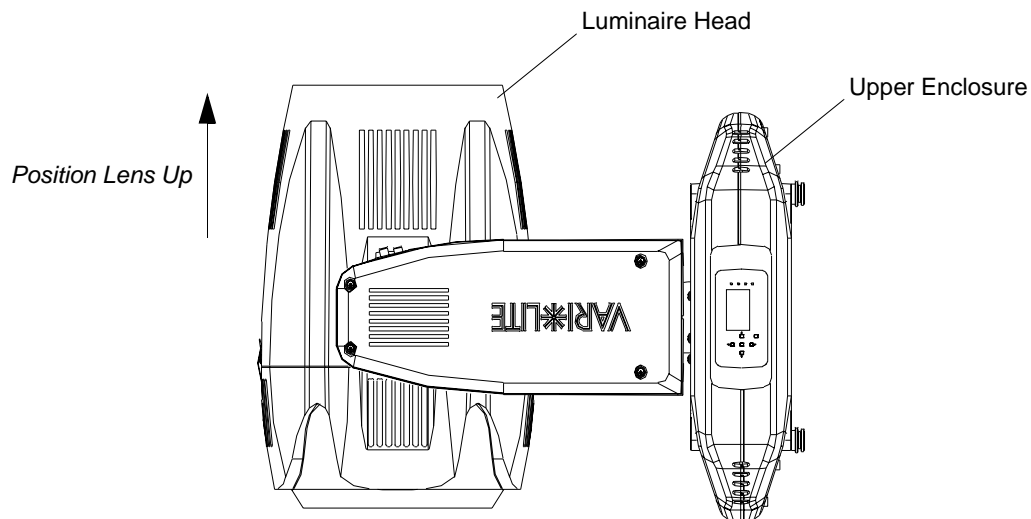

Figure 2-53: VLX Wash Luminaire
- Step 2. Carefully lay luminaire on flat, steady surface to have access to bottom cover of upper enclosure. Be sure to rotate head as shown in Figure 2-53.